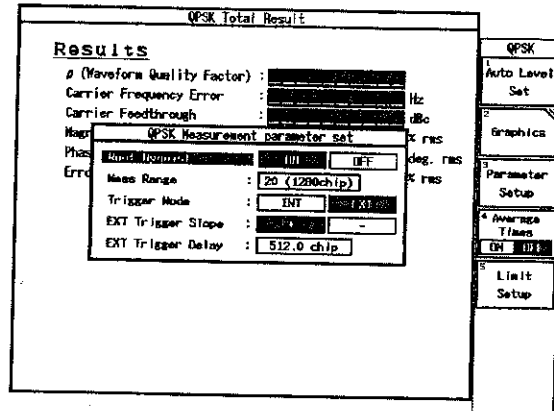

Figure 3-27 Setting of Parameter for W-CDMA Measurement Test
6. On the R3267/3273, set the parameter referring Figure 3-27.